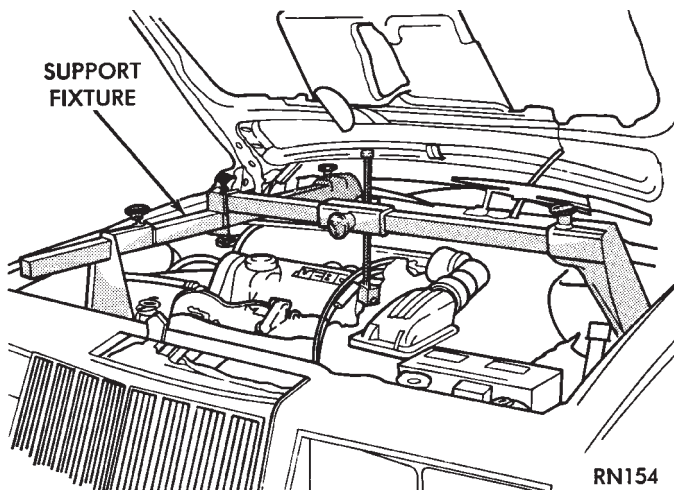

Fig. 11 Engine Support Fixture
- (1) Disconnect or connect **negative** battery cable.
- (2) Install a **lifting eye** on battery ground strap bolt on left side of engine and install the engine support fixture as shown in Figure 11.
- (3) Disconnect or connect gearshift cables at transaxle. Disconnect speedometer. Disconnect or connect gearshift cables bracket at transaxle.
- (4) Remove or install both front wheel and tire assemblies.
- (5) Remove or install left front splash shield.
- (6) Remove or install engine left mount from transaxle.